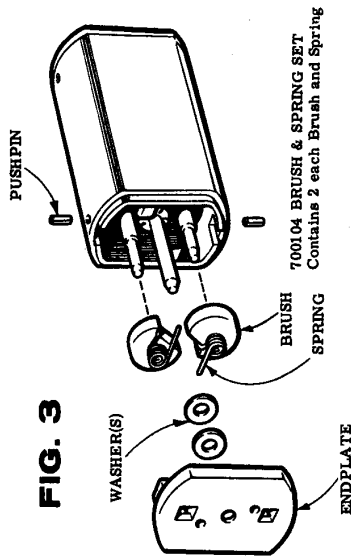

FIG. 3
Brush replacement requires that the motor endplate (see FIG. 3) be removed. This is accomplished in either of two ways:
- Replacement brushes and springs must be arranged as shown in FIGS. 3 and 4. First install the brushes followed by the springs. Use a pointed tool to nudge the "hooked end" of the springs into engagement with the shouldered flat on the brush then, using the same tool, force the "free end" of the spring over the "spring stop" where it will be retained in a notch. Complete the re-assembly by replacing the small washers, endplate and pushpins. The motor will require several minutes of running to seat the new brushes before peak performance can be expected.